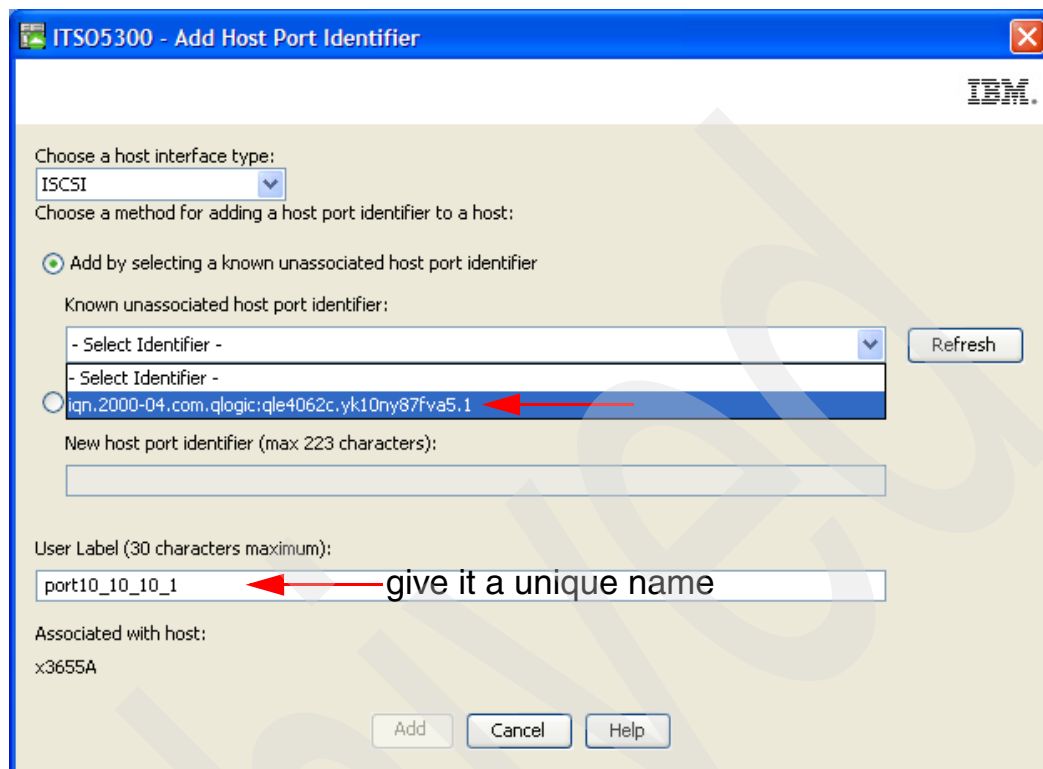

Figure 5-24 Storage partitioning - iSCSI IQN selection
From the Storage Manager (SM) mapping window, create a host and define the host ports using the IQN name of the host (Figure 5-24).
If the Storage Manager does not show the host port IQN as seen in Figure 5-24, go back to the server HBA BIOS and try a **Scan iSCSI Devices** (step 9 on page 229).